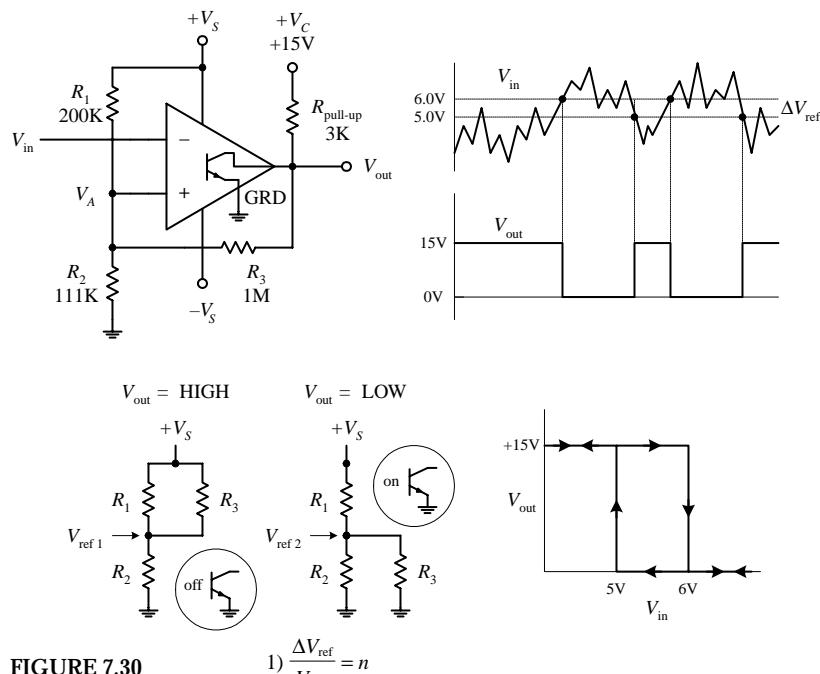

FIGURE 7.30
In the inverting comparator circuit shown in Fig. 7.30, positive feedback through R_3 provides the comparator with two threshold voltages or triggering points. The two threshold voltages result from the fact that the reference voltage applied to the noninverting terminal is different when V_{out} is high (+15 V) and when V_{out} is low (0 V)—a result of feedback current. Let's call the reference voltage when the output is high V_{ref1} , and call the reference voltage when V_{out} is low V_{ref2} . Now let's assume that the output is high (transistor is off) and $V_{in} > V_{ref1}$. In order for the output to switch high, V_{in} must be greater than V_{ref1} . However, what is V_{ref1} ? It is simply the reference voltage that pops up at the noninverting terminal when the output transistor is off and the output is high (+15 V).